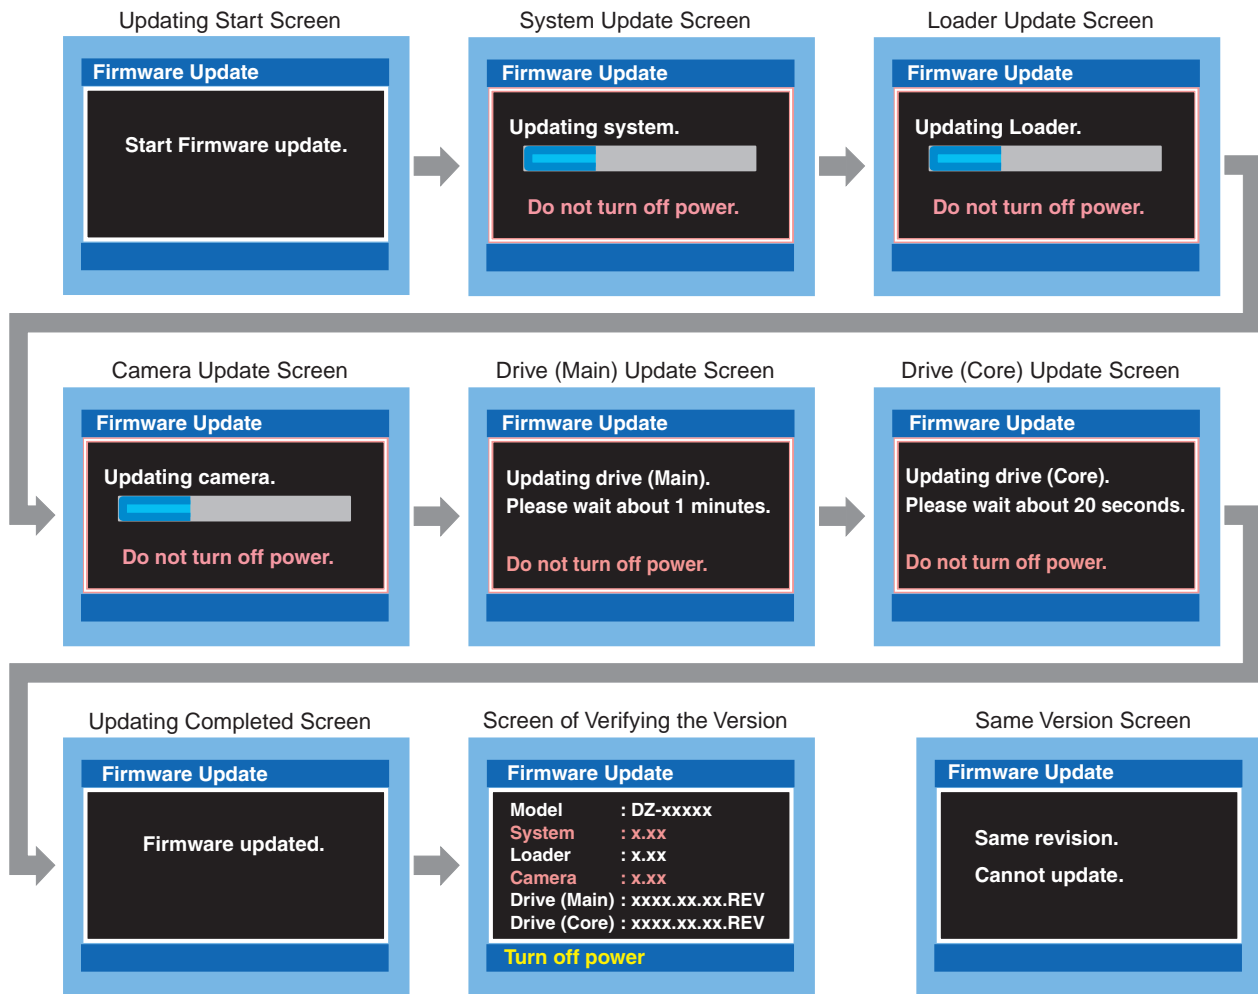

Fig. 4-5-2 Example of Display on Updating Firmware
5) After approx. 20 seconds, the updating start screen (Fig. 4-5-2) will appear, and the firmware programs will be automatically updated thereafter. During updating, screens showing that designated firmware program is being updated will appear, followed by screen showing that updating is complete.